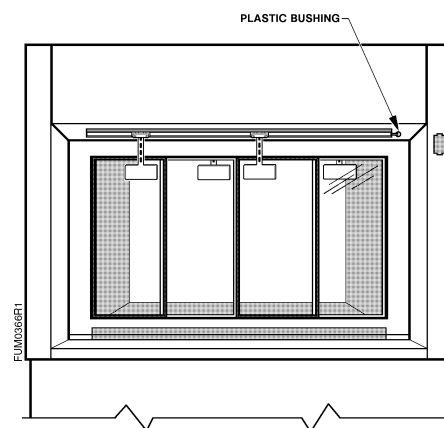

Figure 32. Bushing Placement for Outside Mounted UniTrak Wiring.
3. Snap a plastic bushing into each hole and route the sensor connectors on the ends of the UniTrak through the hole (Figure 32). For inside-mounted UniTrak sensors, route the wiring through existing openings.